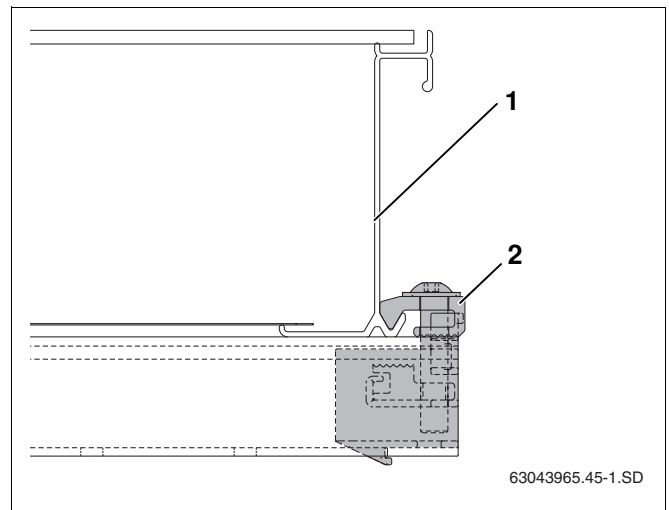

Fig. 47 One-sided collector clamp screwed in place
- Carefully push collector (Fig. 47, **Item 1**) up against the one-sided collector clamp and align horizontally.
- Screw in one-sided collector clamp using size 5 spanner (Fig. 47, **Item 2**).
The grip (Fig. 47, **Item 2**) on the collector clamp now grips the lower collector edge.